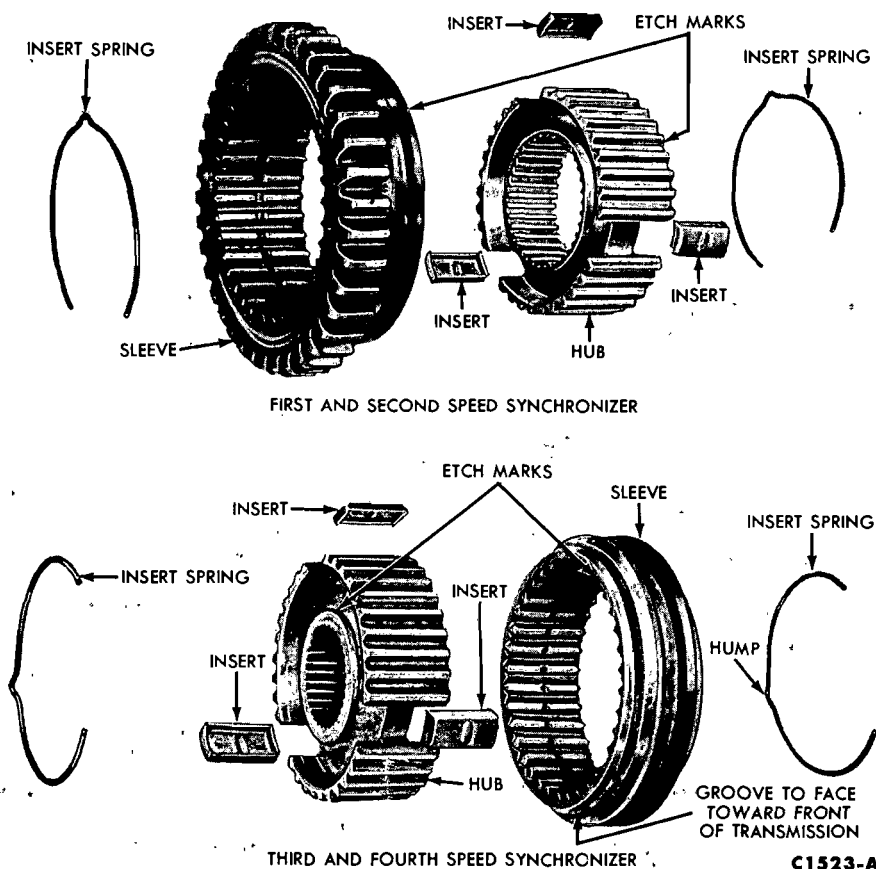

FIG. 16—Synchronizers Disassembled
1. Push the synchronizer hub from each synchronizer sleeve (Fig. 16).